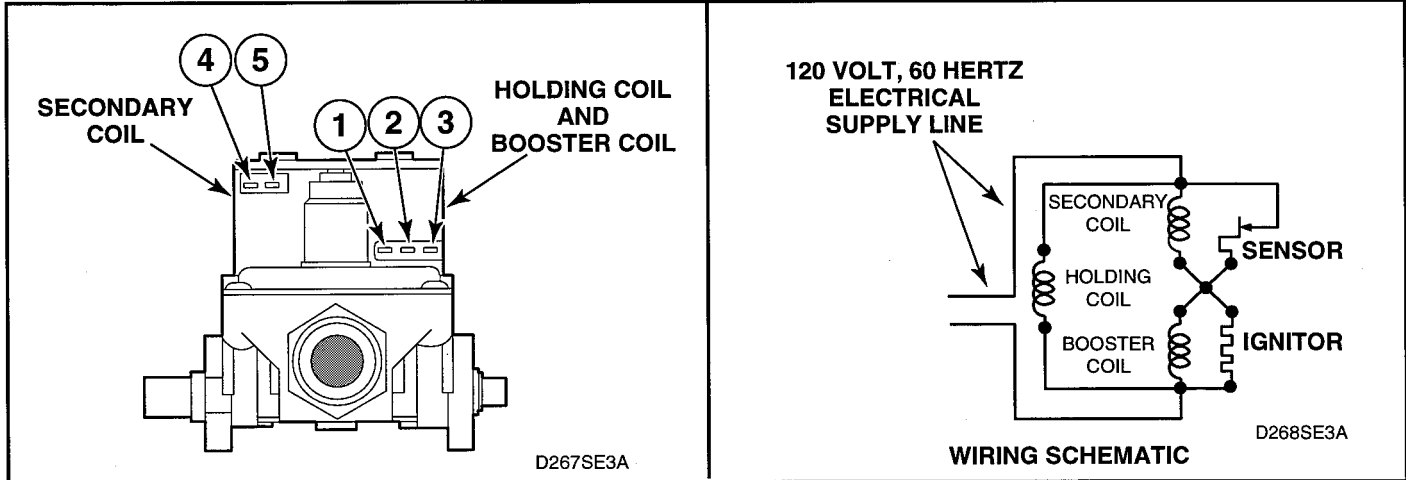

Figure 7-3
2. BURNER SYSTEM OPERATION (Figure 7-3)
IGNITION SYSTEM FEATURES (Figure 7-3)
- Set test meter to read AC voltage and apply meter probes into terminals on the dryer harness plug that would correspond to terminals 1 and 2 on the coil. See figure 7-3. Meter should register line voltage in all Fabric settings, except FLUFF which should read "zero" VAC.